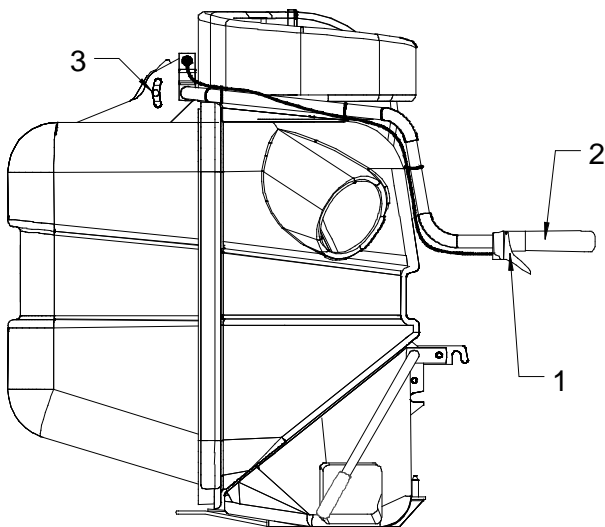

Figure 10
1. Stop the mower, if the mower is turning it is impossible to open the back of collector due to vacuum inside. Unlock the dumping arm from it's working position and raise it completely. The locking pin will drop into a hole in the highest position. Pull dumping arm down to unlock and raise the back of the collector. To close and lock back , raise dump arm to highest position and depress latch to release pin. Lower dump arm to working position (fig. 10).